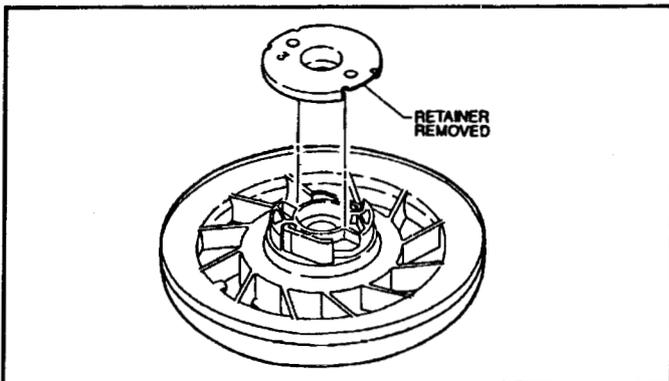

Figure 25
3. Remove the Phillips head screw from the center of the rewind mechanism and lift the friction plate from the starter. See Figure 25.